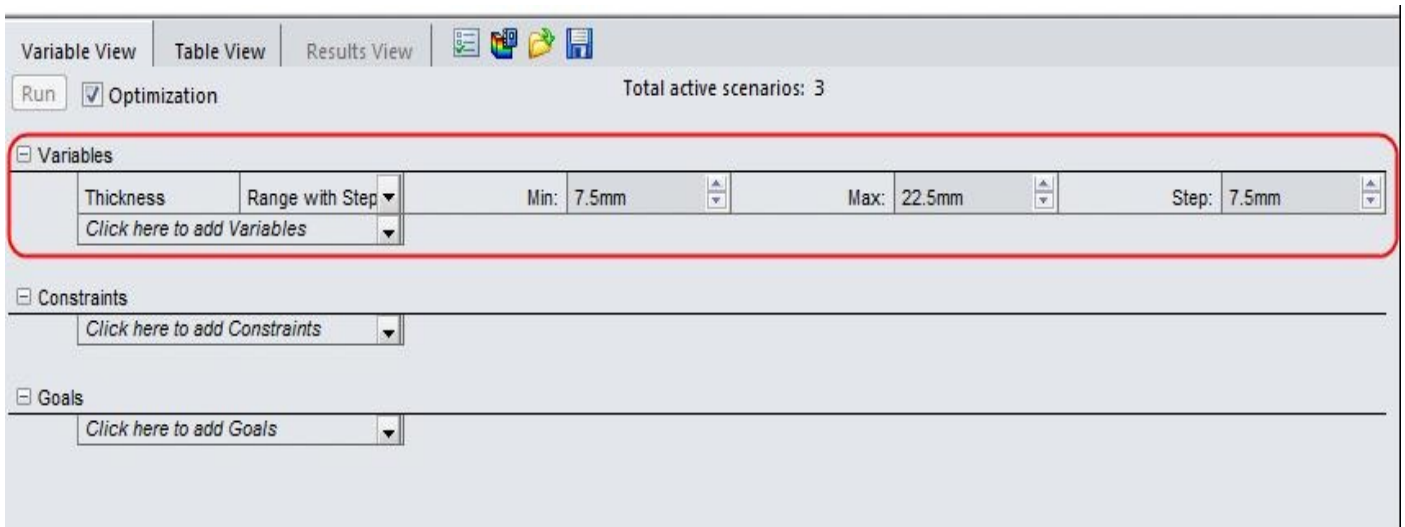

Figure-20. Design variable with range
- After specifying the variables, click on the **OK** button from the dialog box. The variable will be added in the **Design Study** pane and its range will be displayed; refer to Figure-20.